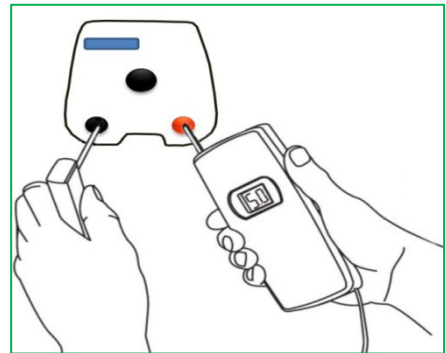

Figure 24. Testing with digital fence voltmeter
- Without connecting the energizer to the fence and earth, test the output voltage with the electric fence voltmeter (Figure 24). If there is no output voltage or less than 5KV, then there is fault with the energizer. Should immediately contact the manufacturer.